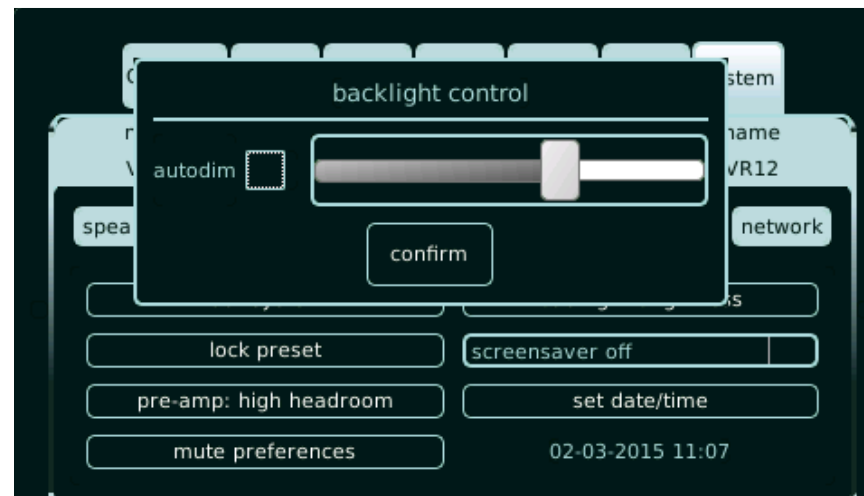

Fig 24. Backlight control set-up menu
**7.7.8 Backlight brightness** - this can be adjusted, in “manual” (with slider bar) or “automatic” (through light sensor behind the front panel); Both the brightness of the display and the Alcons logo are adjusted. (see fig.24)